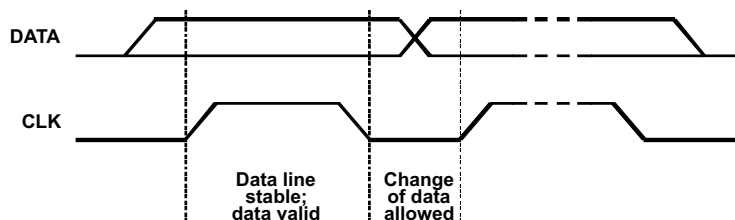
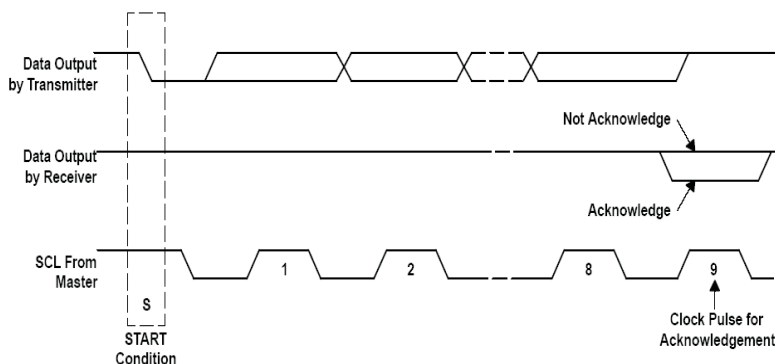

Figure 33. Bit Transfer on the Serial Interface
Figure 34. Acknowledge on the I²C Bus
The master then generates the SCL pulses, and transmits the 7-bit address and the read/write direction bit R/(W) on the SDA line. During all transmissions, the master ensures that the data is valid. A valid data condition requires the SDA line to be stable during the entire high period of the clock pulse (see Figure 33). All devices recognize the address sent by the master and compare it to their internal fixed addresses. Only the slave device with a matching address generates an Acknowledgment, ACK, (see Figure 34) by pulling the SDA line low during the entire high period of the SCL cycle. Upon detecting this Acknowledgment, the master knows that communication link with a slave has been established.